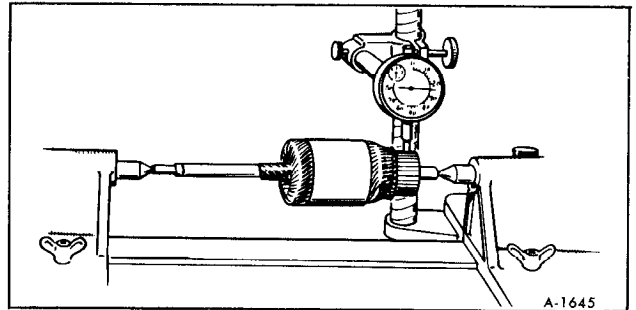

Figure 57-Testing Commutator Runout
**COMMUTATOR RUNOUT:** Place armature in a pair of v-blocks and measure runout with a dial indicator refer to Figure 57. Measure both shaft and commutator. A bent shaft requires replacement of armature. When runout exceeds a .004 inch, com-